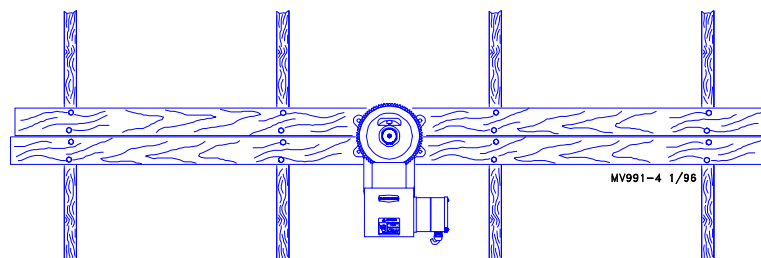

Figure 2. Power Unit Mounted on Ceiling Joists or 2x4's
2. Lag the base of the power unit and the pulley Angle Bracket with lag bolts to two 2 x 4's that span at least four ceiling joists or wall studs. **See Figure 2**. Install the eye bolt on the pulley through the angle bracket.